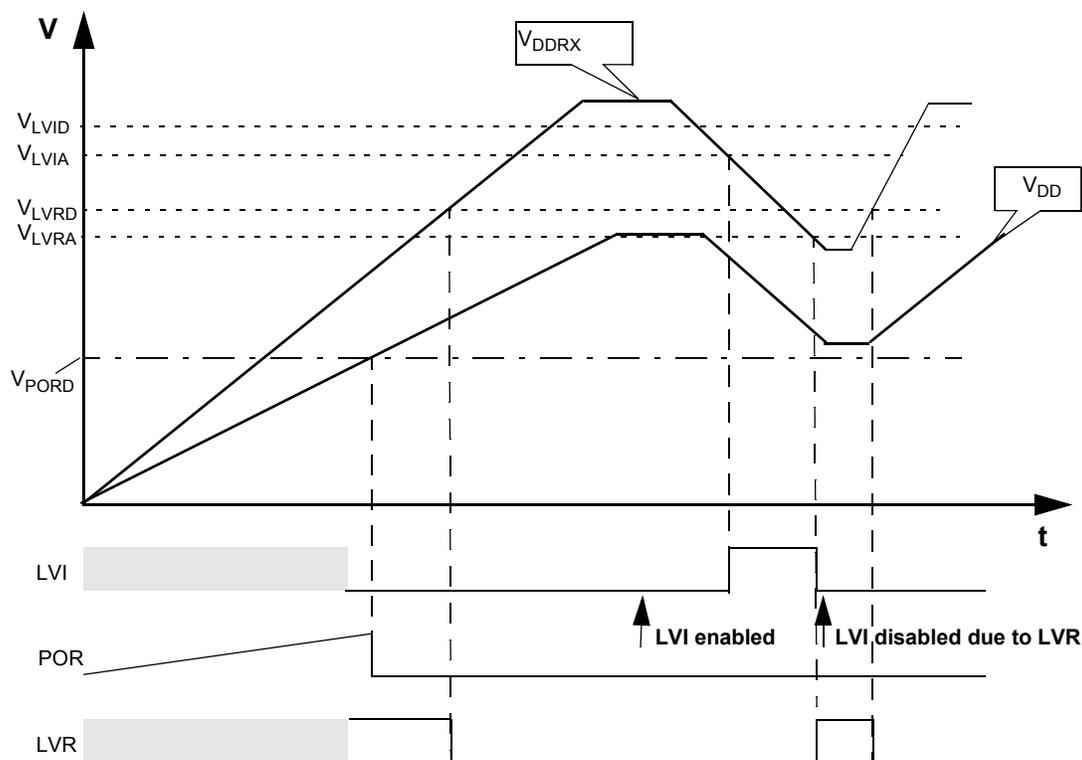

Figure 7. Chip power-up and voltage drops OSCLCPcr electrical specifications
56. Monitors VDDR $\bar{X}$ , active only in Full Performance mode. MCU is monitored by the POR in RPM (see Figure 7)57. The ACLK Trimming CPMUACLKTR[5:0] bits must be set so that  $f_{ACLK}=10\text{KHz}$ .58. Monitors VDDR $\bar{X}$ , active only in Full Performance mode.  $V_{LVRA}$  and  $V_{PORD}$  must overlap (see Figure 7)